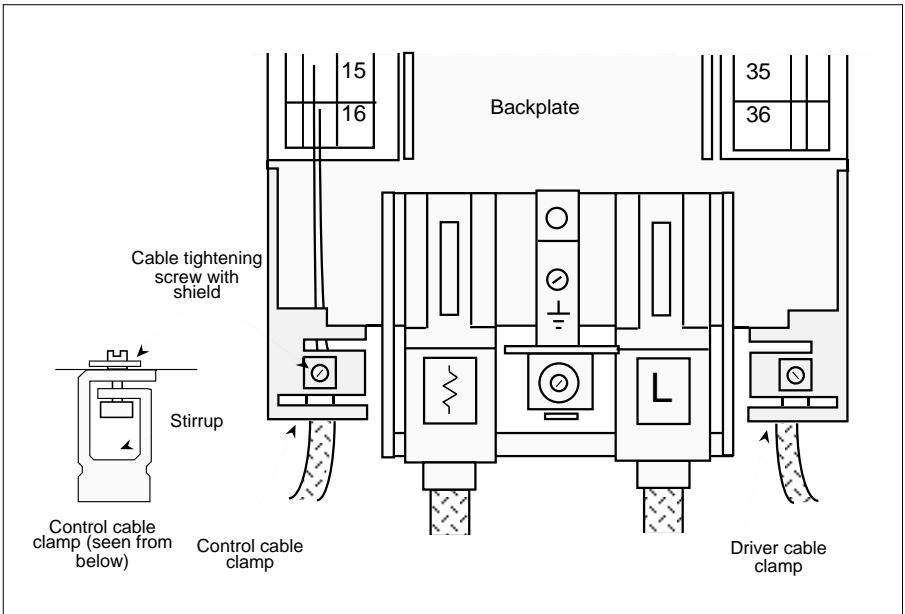

Figure 3-4 Control cable clamp location
- **Fold back** the shield on the isolating sheath (figure 3-4,b).